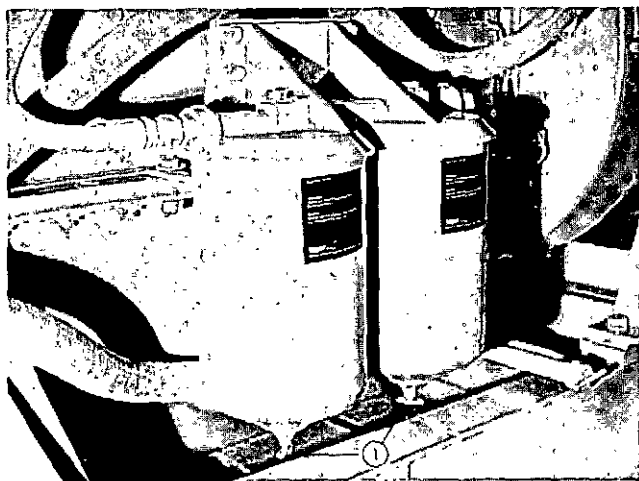

Fig. 5-5. Open drain cocks in fuel filter
1. Open drain cocks (1, Fig. 5-5), if used, at bottom of fuel filter case and drain out any accumulated water and sediment. Tighten the drain cock. If drain plug is used, tighten to 5 to 10 ft lb [0.6915/1.3830 kg m].